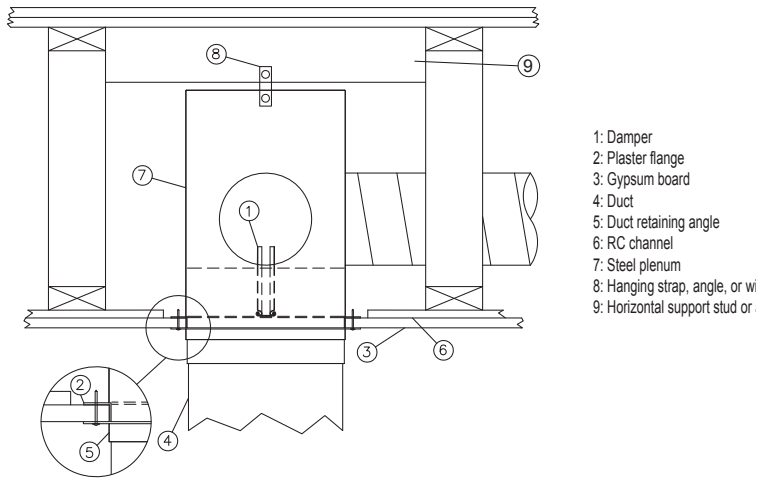

Figure 5: Hanger Method: Duct Mount with Steel Plenum
- 1) The duct retaining angles, 1 in. x 1 in. x 24 gauge, shall be installed on all four sides and shall be attached with a minimum of 4 - 1 in. long #6 screws run through the gypsum wall board into the plaster flange (**Figure 5**).